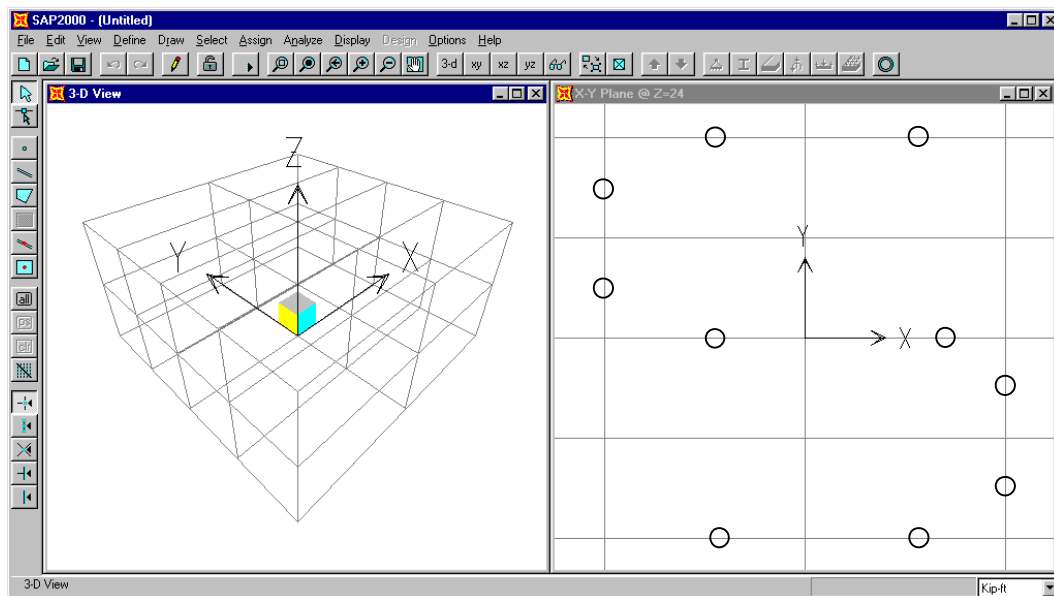

Figure C-9: Quick Drawing Roof Level Beams
- In the window labeled X-Y Plane @ Z=24, to enter a beam element click on a grid line. The **Quick Draw Frame Element** tool will then create a beam element on that grid line spanning between the closest perpendicular grid lines on either side of the point where you clicked. Thus click the ten locations designated by an O in Figure C-9 to draw some of the roof level beams.